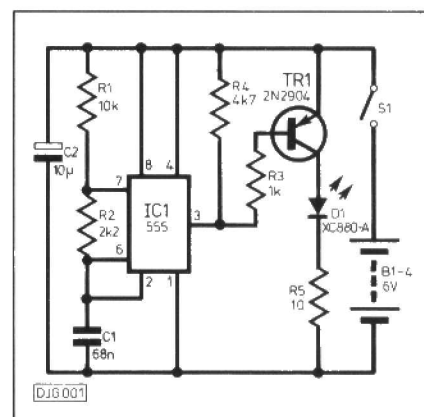

Fig. 2. Transmitter circuit diagram
The transmitter unit, Fig 2, is based around an XC-880-A infra-red (IR) light emitting diode. To allow both high output, with a fair range, and low battery consumption, the diode is pulsed at a ratio of 5:1. An oscillator, an NE555 timer connected as an astable, running at approximately 1500Hz, switches the output to turn on